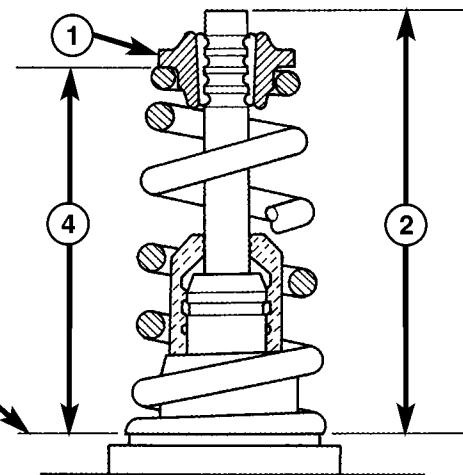

Fig. 31 Checking Valve and Spring Installed Height
(5) After grinding the valve seats or faces, install the valve in cylinder head and check valve installed height by measuring from valve tip to spring seat (Fig. 31). Remove valve from cylinder head and grind valve tip until within specifications. Check valve tip for scoring. The tip chamfer should be reground (if necessary) to prevent seal damage when the valve is installed.
(6) Check the valve spring installed height after refacing the valve and seat (Fig. 31).
If valves and/or seats are reground, measure the installed height of springs (Fig. 31), make sure measurements are taken from top of spring seat to the bottom surface of spring retainer. If height is greater than specifications, install a 0.794 mm (0.0312 in.) spacer in head counterbore to bring spring height back within specifications.